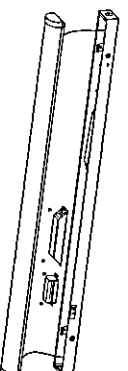

Figure 13
- Step2. Assemble the backup driver to the lamp chassis (Figure 13)